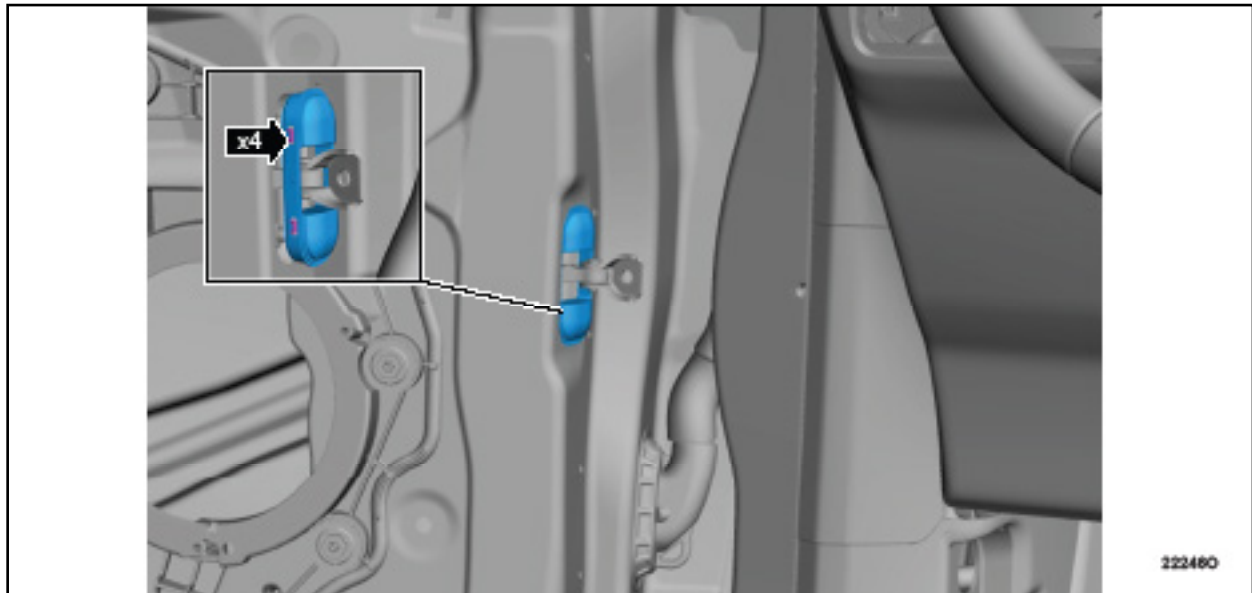

FIGURE 8
6. If equipped, remove the front door check arm cover. See Figure 8.